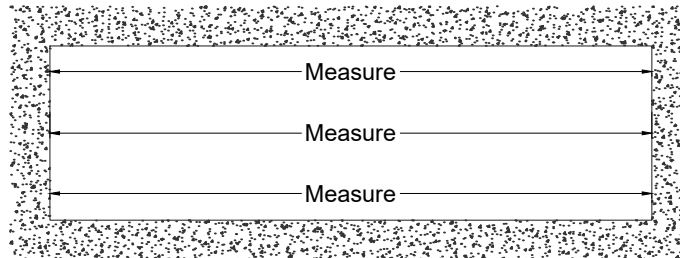

FIG. 2
- Measure the width of the opening (Rough Opening) at the top, middle and bottom. Select the smallest of these dimensions and subtract the left and right caulk joint width per approved shop drawing (3/4" [19] minimum caulk joint at jambs). **SEE FIG. 2.**